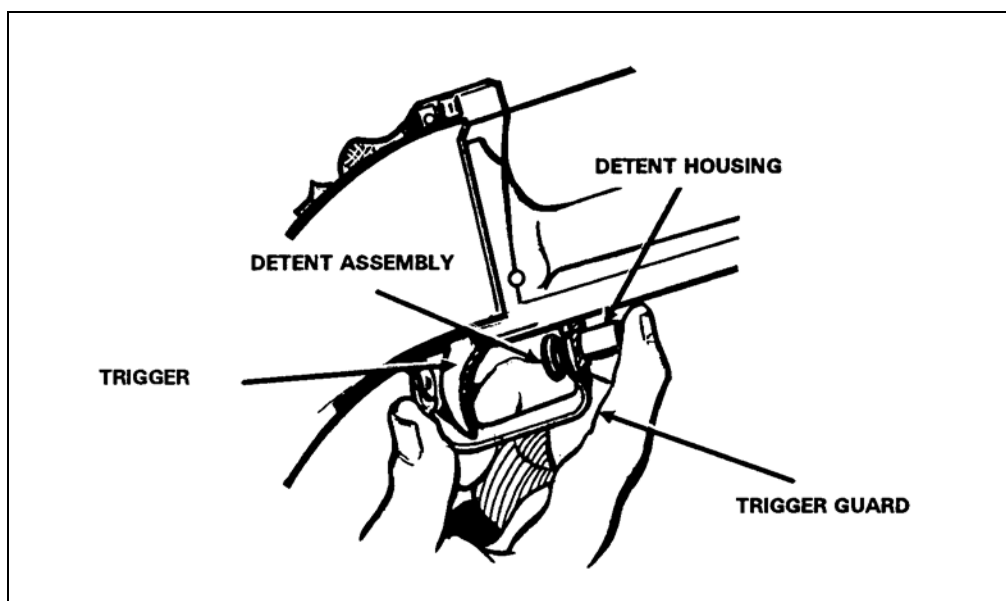

Figure A-6. Position of trigger and trigger guard.
d. **Trigger and Trigger Guard Detent Assembly.** Figure A-6 shows the locations of the trigger and trigger guard. Depress the detent assembly to move the trigger guard right or left or to fire when wearing gloves or mittens.